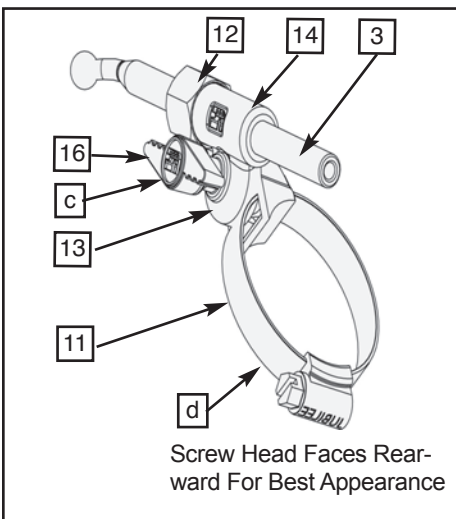

Figure 10a
18. **Tighten Securely. Figure 10a and 11**